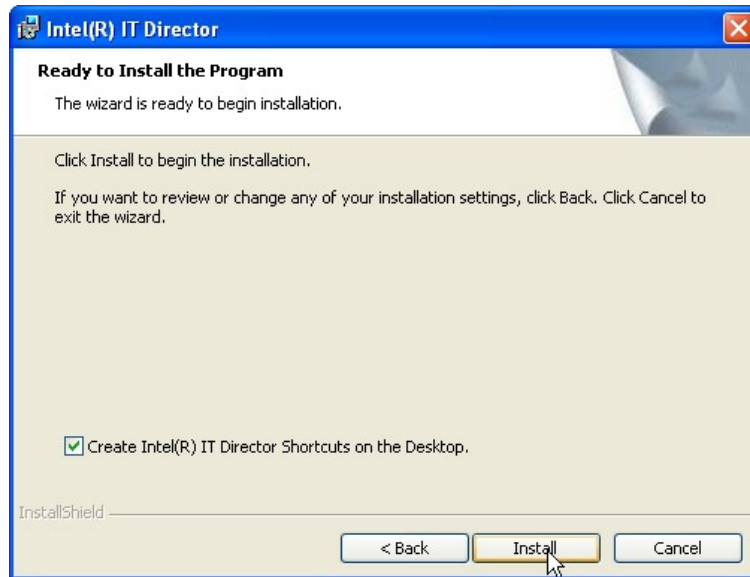

Figure 6-30: IT Director Installation
Step 11: The **Ready to Install the Program** screen in **Figure 6-30** appears.